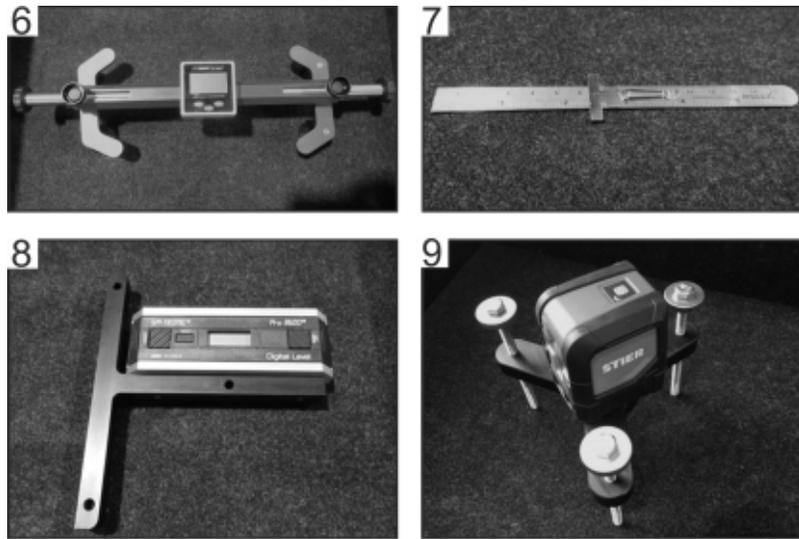

Figure 8
- ⇒ **Figure 8 -6-** – Steering wheel scale “universal”
- ⇒ **Figure 8 -7-** – Steel dimension 150 mm
- ⇒ **Figure 8 -8-** – Fall scale
- ⇒ **Figure 8 -9-** – Levelling laser with tripod